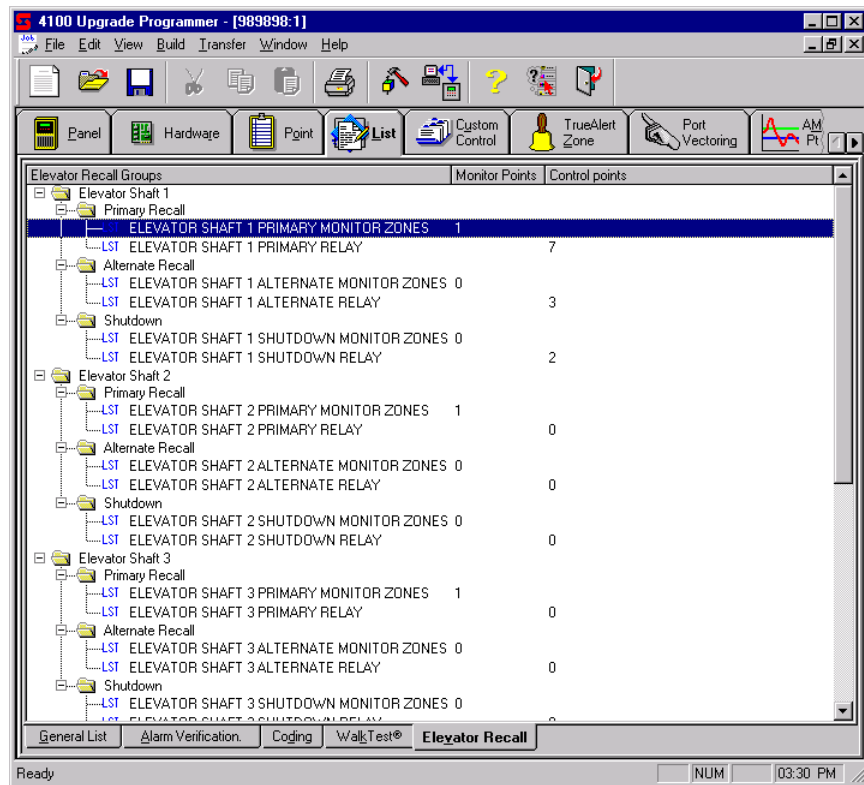

Figure 9-18. Elevator Recall Tab
2. Click on the Elevator Recall tab at the bottom of the List Window. A screen similar to the one shown in Figure 9-18 appears.